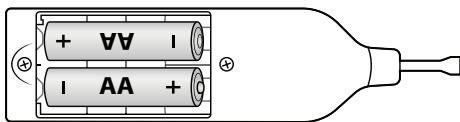

fig. 1
- ◆ Insert the batteries into the wax melter **1** as indicated in the battery compartment **4** (see fig. 1).